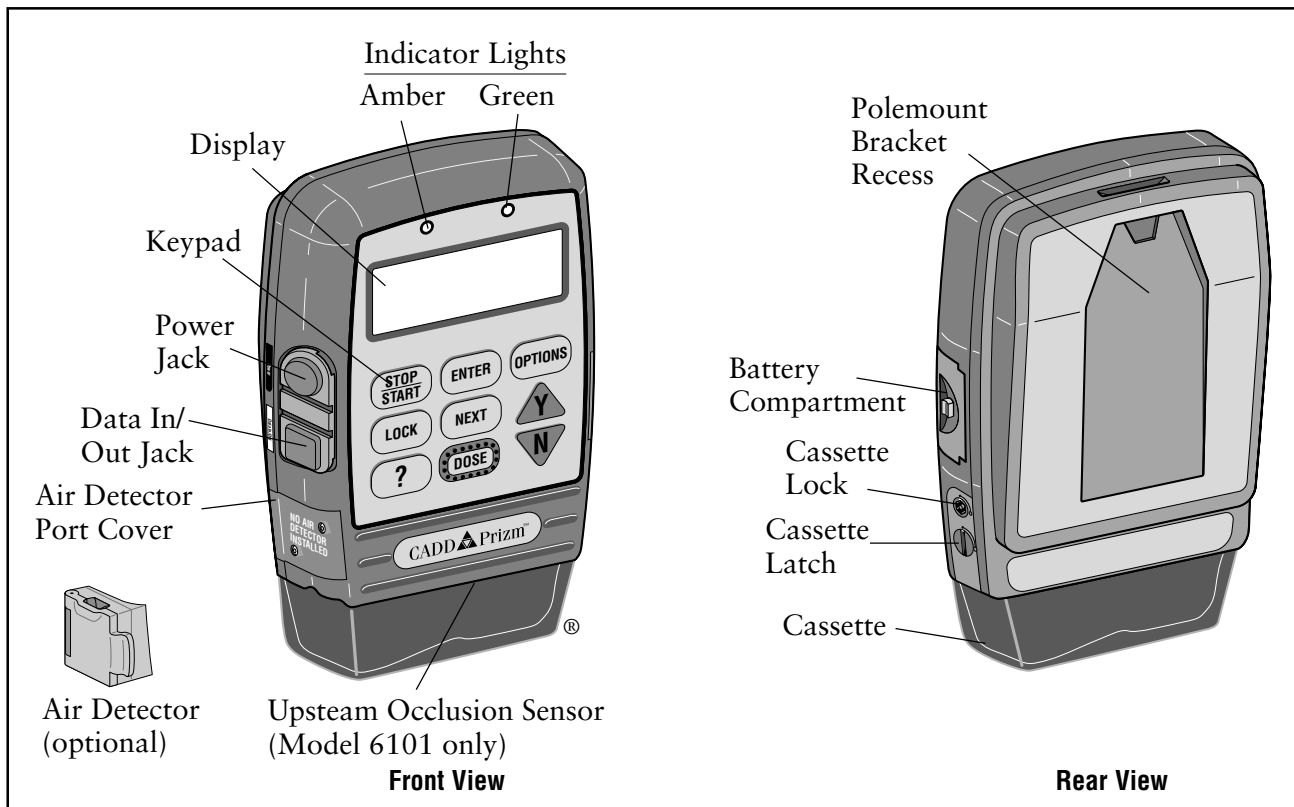
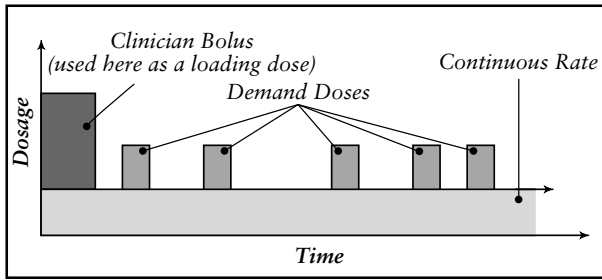

Figure 1. Front and back views of the CADD-Prizm® pump.
Figure 2. PCA mode delivery profile.
allows it to be used in a variety of settings. The CADD-Prizm® VIP (Variable Infusion Profile) pump may be programmed to deliver medication in one of four delivery modes: (1) PCA (patient-controlled analgesia) (2) Continuous (3) Intermittent and (4) TPN (total parenteral nutrition) (See Figures 2 through 5). The CADD-Prizm® PCS (Pain Control System) pump may be programmed to provide patient-controlled analgesia therapy. Figure 1 shows a diagram of the CADD-Prizm® pump.